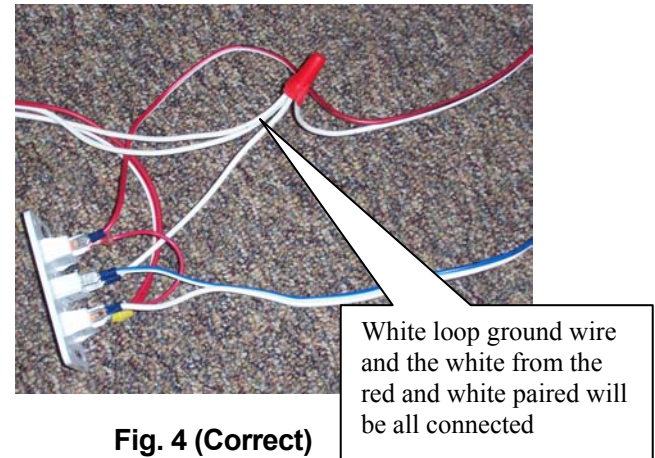

Fig. 4 (Correct)
- Step 4** Verify the ground wires match Fig. 4. Go to Step 8 if correct.
- Step 7** Connect the 4 white wire ends together with a wire nut. (Fig. 4)